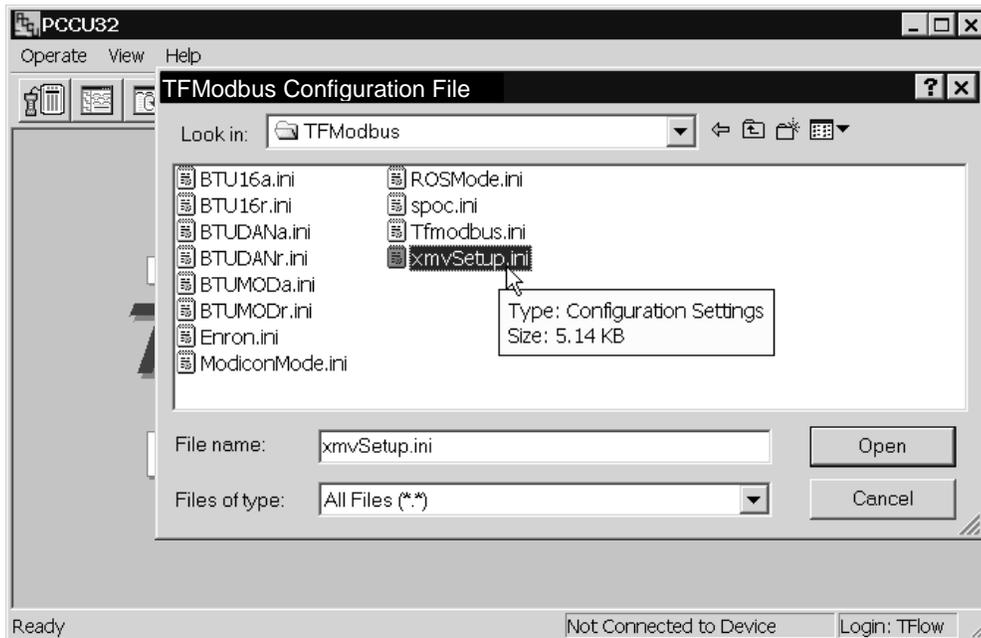

Figure 1–2 TFModbus
- 3) The INI program will cycle through the Modbus addresses and baud rates until it communicates with the XMV (see Figure 1–3). The address search will stop when the XMV responds. The current Modbus address and baud rate of the XMV are displayed in the address search box.